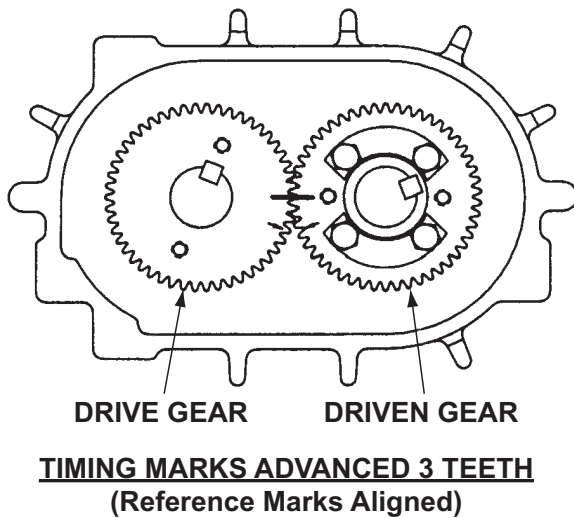
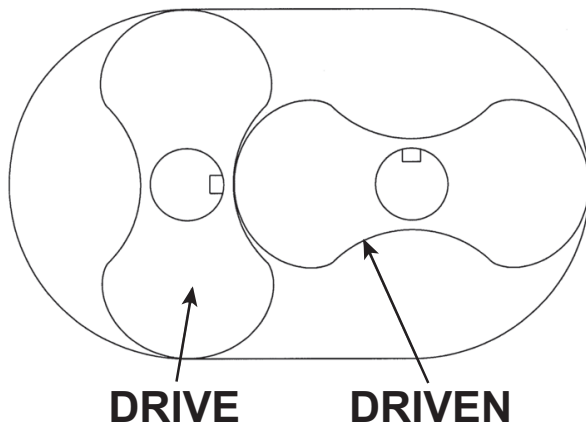

Figure 8-3 – Timing Marks Advanced Three Teeth
Figure 8-4 – Keyway Position
8. Align the timing marks on the gears (**see Figure 8-3**). Rotate the drive gear clockwise approximately three teeth, and mark a matching reference line on each gear as shown in **Figure 8-4**. This gear position is necessary so rotors will clear and not jam. Do not allow the gears to move from the matched reference line while pulling. Use a light rocking motion to make sure that the lobes have not jammed. Remove the driven gear first, and then remove the drive gear.
2. Stand the rotors on a press with the drive rotor on the left, making sure the keyways are properly positioned as shown in **Figure 8-4**. You may use the drive end plate as a temporary fixture to support the rotor lobes while pressing on the bearings and gears.
7. Lubricate the shafts and keys, and press the drive gear (right hand helix) on the drive rotor. To install the driven gear, align the reference marks as shown in **Figure 8-3**. Tap the gear with a mallet to start, and then press the gear until seated.